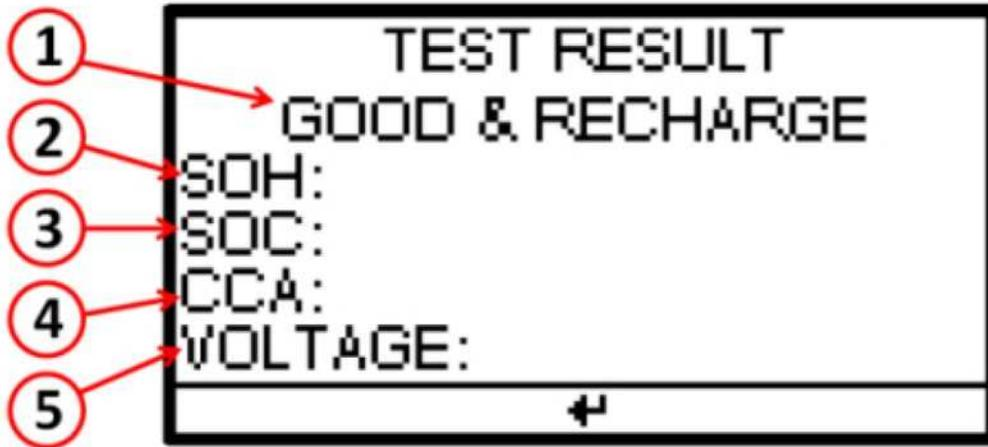

Fig. 4
2. Press Enter to confirm; the request to scan the barcode corresponding to the VIN will appear on the display of the instrument (Fig. 4) .
2. Press Enter to confirm; the request to scan the barcode corresponding to the VIN will appear on the display of the instrument (Fig. 4) . VIN acquisition via scanner (for all vehicles with and without Start and Stop system) According to whether the barcode corresponds to the VIN is present or absent, follow the instructions in the following paragraphs.
- When the request to scan the barcode corresponding to the VIN is displayed, use the “UP” and “DOWN” arrows to select “YES” (Fig. 4) .
- Aim the scanner on the back of the instrument towards the barcode (Fig. 4) .
- After acquiring the barcode; the display of the instrument shows the request to specify the type of battery to be checked; proceed to Step 1(Fig. 4) .
- When the request to scan the barcode corresponding to the VIN is displayed, use the “UP” and “DOWN” arrows to select “NO”(Fig. 4) .
- Press Enter to confirm. The display of the instrument (2) shows the request to specify the type of battery to be checked (Fig. 4) ; proceed to Step 1.